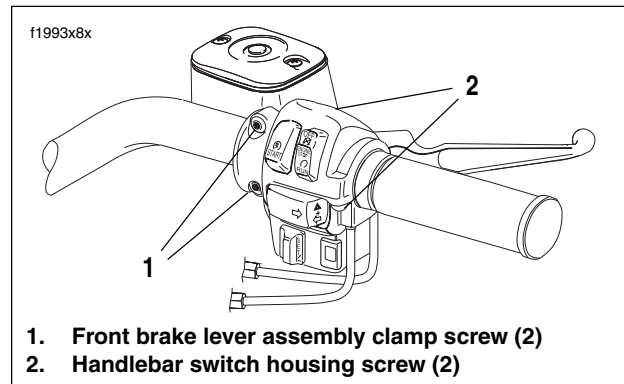

Figure 7-10. Handlebar Lever and Control Mounting Screws (Right Side Shown)
- See Figure 7-10. Loosen (but do not remove) front brake lever assembly clamp screws (1) and handlebar switch housing screws (2).